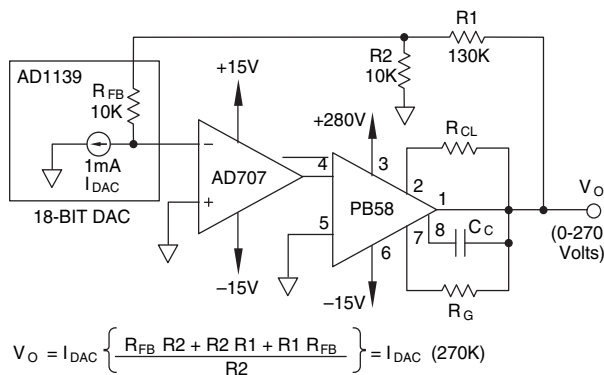

FIGURE 3. HIGH ACCURACY PPS
The programmable power supply (PPS) application is useful to demonstrate the versatility of the PB series boosters. Along with the need to supply high voltages and currents, programmable power supplies often need high accuracy and low drift, while at other times they may need to be fast-responding. The PB series allows the designer to optimize the circuit for these choices. Figure 3 is an example of a high accuracy PPS. An AD707 is selected as the driver amplifier to provide the extremely low offset required to obtain best possible performance from a high accuracy 18-bit DAC. The divider network on the output, R1 and R2, scale the output swing down to the full-scale range of the DAC. Accuracy will be affected by this divider, necessitating the use of high quality, low temperature coefficient (TC) resistors. If a packaged network can be used, then absolute TC is not nearly as important as TC ratio between R1 and R2. The use of this divider is preferable to the alternative technique of using an external DAC feedback resistor, since using the internal DAC feedback resistor insures the best possible temperature drift performance of the DAC itself. Most DAC's can exhibit up to 300 ppm/°C drift with external feedback resistors.